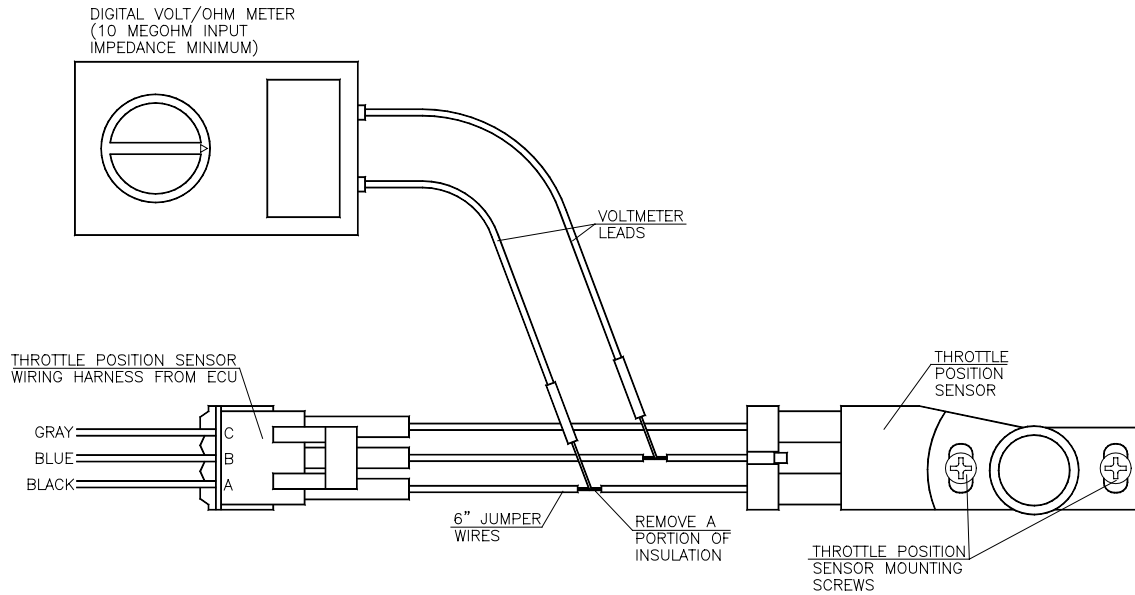

Figure 15
2. Remove a portion of the insulation on the jumper wires connecting to both the black and the blue wires leading to the TPS as shown in Figure 15.